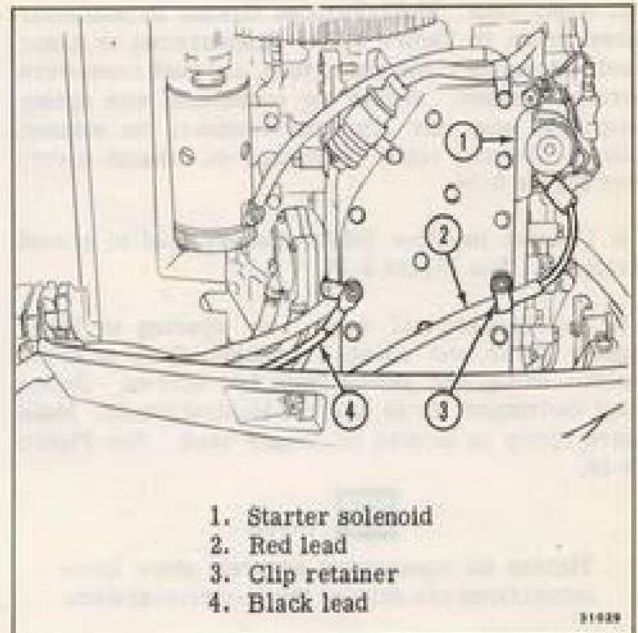

Figure 8-24. Cable Connection
b. Route the positive (red) battery lead to starter solenoid using the decal on starter motor as your guide. The lead should be routed behind the starter motor. Cover terminal with rubber boot. See Figure 8-24.
c. Apply OMC Multi-Purpose Grease to connector area shown in Figure 8-25. Align arrows on motor and instrument cable connectors, and push connectors firmly together. Secure the connection with spring clip and snap the clip into retainers on exhaust cover. Secure cable in clamps on exhaust cover. See Figure 8-24.
d. Connect negative (black) battery lead to ground terminal. See Figure 8-24.